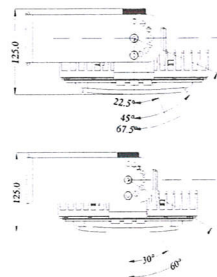
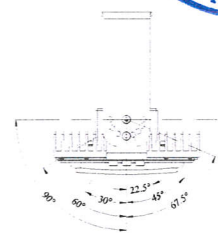

Figure 1
Figure 2
- ☞ The mount bracket is for surface mounting to wall (Figure 1) and ceiling (Figure 2).